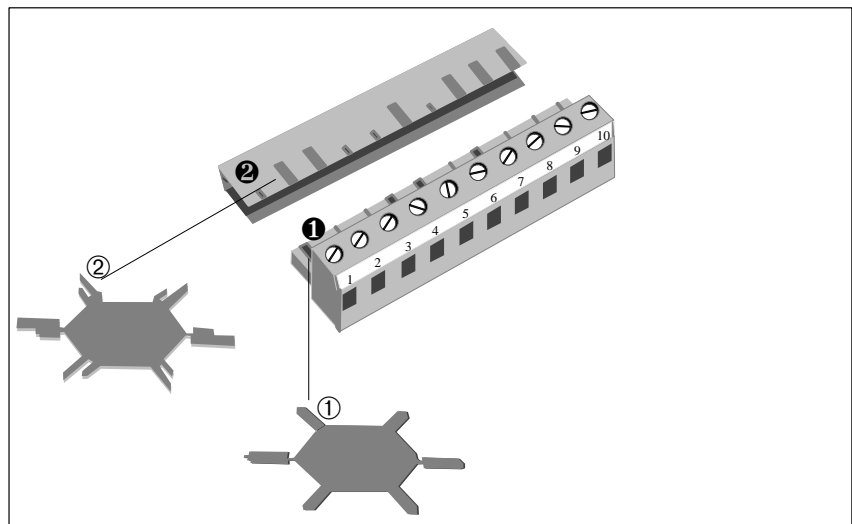

Figure 2-12 Preventing Insertion of the Wrong Connector
Keying Connectors With the solid keys ① and the profile keys ② (see Figure 2-12) you can configure a connector so that it cannot be inserted in the wrong receptacle without having to sacrifice a pin. Follow the steps below:
1. Insert solid keys ① into the grooves on the connector ❶.
2. Insert the profile keys ② into the cutouts on the housing ❷.